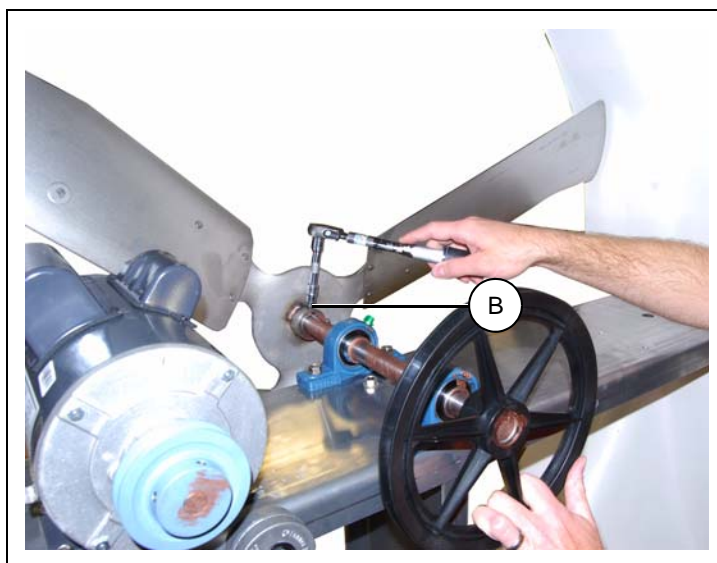

Figure 8T
3. Tighten the set screws (B) to 120 ft.-lbs. of torque. (See Figure 8T.)